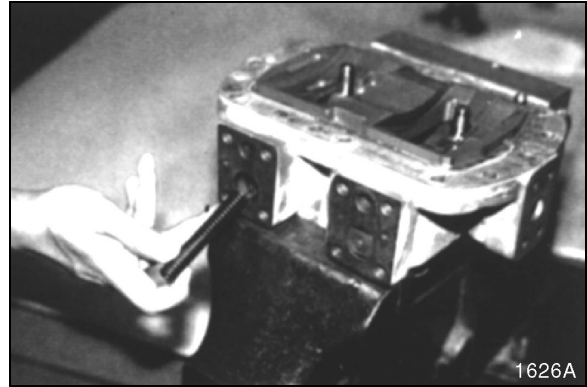

Figure 33
6. Remove spring. See Figure 33.